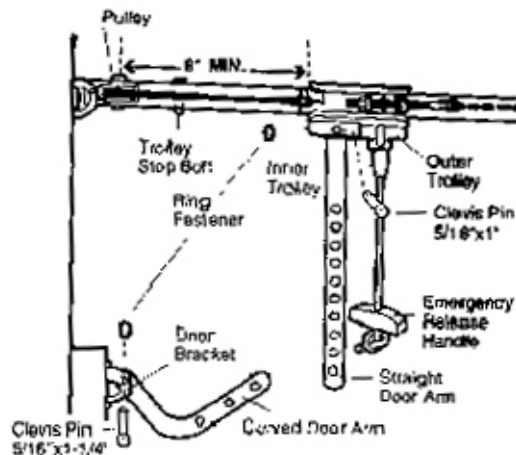

Figure 1
- Make sure garage door is fully closed. Pull the emergency release handle to disconnect the outer trolley from the inner trolley. Slide the outer trolley back (away from the pulley) for 8" minimum as shown in Fig. 1, 2 and 3.
● Fig. 1